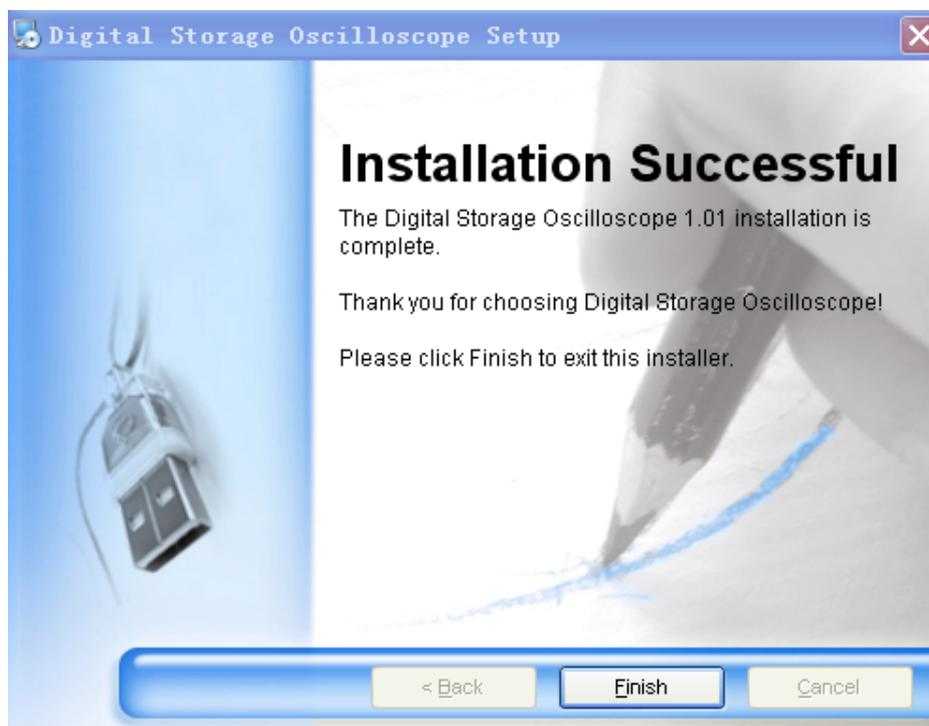

Fig 1-7
Step seven : When automatic installation is complete and the box shown in Fig 1-7 pops up, click the [FINISH (F)] button. Your oscilloscope communication and control software is now successfully installed on your computer and ready for use.